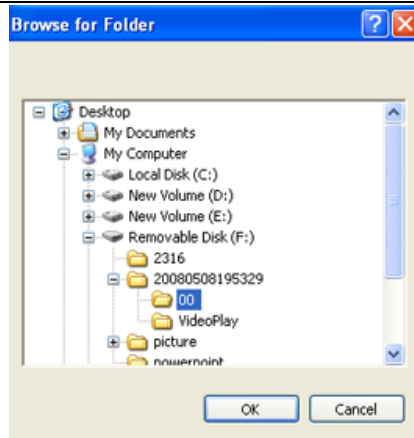

Fig 3.21 Choose Backup Folder
- ① Search area
- ② video display area
- ③ Video data area
- ④ Control area
- ⑤ AVI converting
STEP2 Click Browse to choose the folder which contains the video backup, as Fig 3.21 Choose Backup Folder.